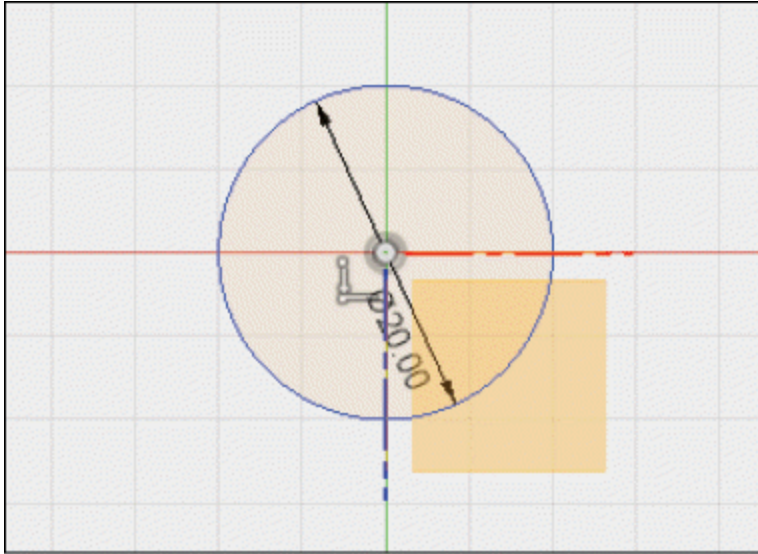

Figure-72. Creating base sketch
- Create the sketch as shown in Figure-72. Click on the **Finish Sketch** tool to exit.